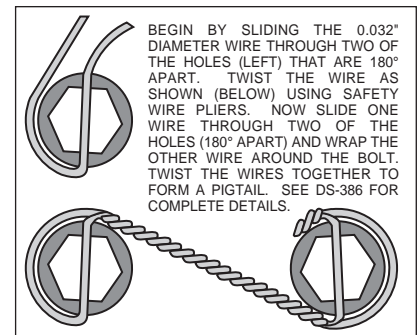

Figure 3. Safety Wire Diagram
•The caliper mounting bracket (1) should be installed first with clean, dry threads on the mounting bolts. **NOTE:** Caliper bracket provided has mount points to allow mounting to rear ends that use either 11.66" diameter or 10.51" diameter rotors. Mount point (A) is for rear ends with 11.66" OE rotors, mount point (B) is for rear ends with OE 10.51" rotors. Install the bracket (1) on the outboard side of the stock bracket by sliding bolt (2) from the inboard side of the hub assembly through washer (3) and the sleeve (4) which is inserted inside the existing OEM caliper mounting holes. Place two shim washers (16) between the hub and the caliper mounting bracket (1). The mounting bracket (1) must tighten squarely against the outboard side of the stock bracket face. Inspect for interference from casting irregularities, machining ridges, burrs, etc. Use two shims (16) between the mounting bracket (1) and stock bracket during initial trial fitting.
•With the larger I.D. side of the rotor (6) facing away from the hat (7), bolt rotor (6) to hat (7) through the backside of the rotor using washers (8), and bolts (9). Using an alternating sequence, apply red *Loctite*® 271 to the threads and torque bolts to 155 in-lb. For an added measure of security, the bolts may be safety wired using standard 0.032 inch diameter stainless steel safety wire as shown in Figure 3. Please refer to Wilwood's data sheet DS-386 (available at www.wilwood.com/Pdf/DataSheets/ds386.pdf) for complete safety wire installation instructions.
•Slide the brake pads (15) up into the caliper (10) from the bottom until the "v" spring clip snaps into place against the anvil. They should install easily without interference.
•Lubricate caliper mounting studs and nuts with lightweight oil. Install two shims (14) over each stud (13) on the radial mount bracket (2). Slide the caliper (10) in place over the studs and rotor and install the washer (12) and lock nut (11) to hold the caliper in place. The caliper bleed screw should be pointing toward the rear of the vehicle. Snug the lock nuts (11) and check that the caliper (10) is centered over the rotor (6). Add or subtract .016" shims (5) and/or .030 shims (16) as necessary between the caliper mounting bracket (1) and the stock bracket to center the caliper (10) on the rotor (6).
•Check that the outside radius of the brake pad (15) is aligned with the outside diameter radius of the rotor face. Add or subtract shims (14) between the caliper (10) and caliper mounting bracket (1) to gain the proper alignment.
•Once all clearances have been checked, remove the wheel, caliper and rotor from the axle flange. Secure the caliper mounting bracket (1) to the spindle face while applying red *Loctite*® 271 on the bolt threads (2). Torque the bolts (2) to 35 ft-lbs.. Reinstall the rotor and again use several lug nuts to hold it in place. Reinstall the caliper, torque the caliper nuts (11) to 30 ft-lbs.